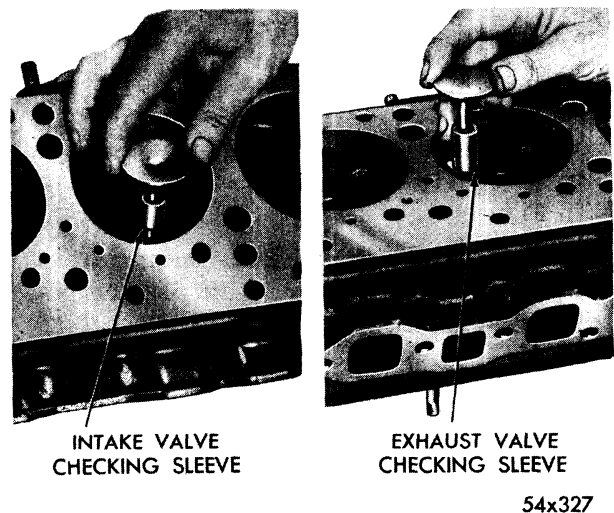

Fig. 62—Installing Sleeves To Check Guide Clearance
- (1) Slide sleeve, Tool C-3025, on the intake valve stem or Tool C-3026 on the exhaust valve stem, as shown in Figure 62. Insert the